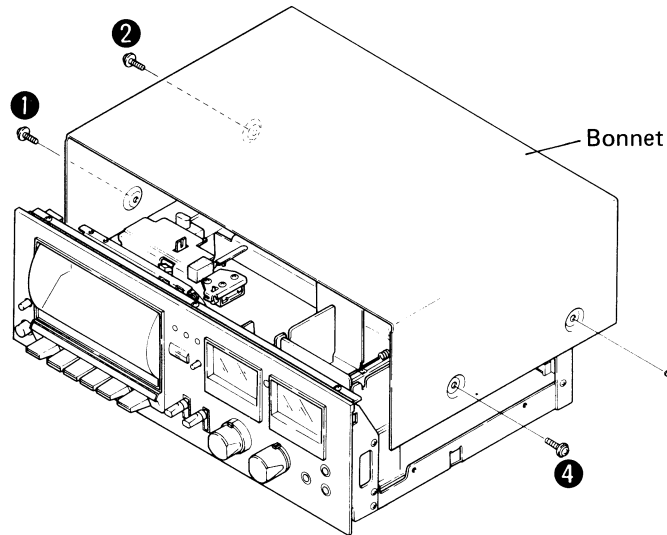

Fig. 22
1. Remove the two mounting screws at the left and right sides of the bonnet, and remove it (Fig. 22).